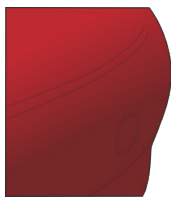

Figure 25
- › The application is finished. (FIG. 25)